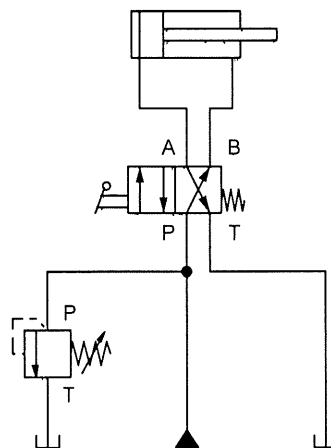

Figure 1
- a) Figure 1 shows a simple hydraulic circuit. Convert the existing circuit to an electro hydraulic system with a direct actuation single solenoid valves.